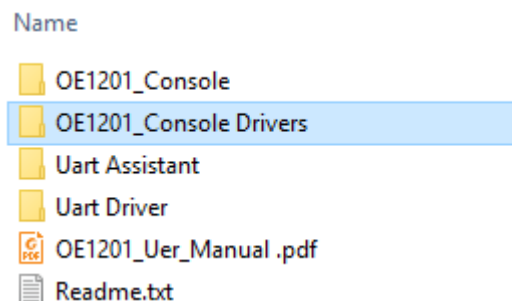
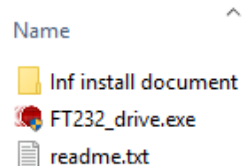
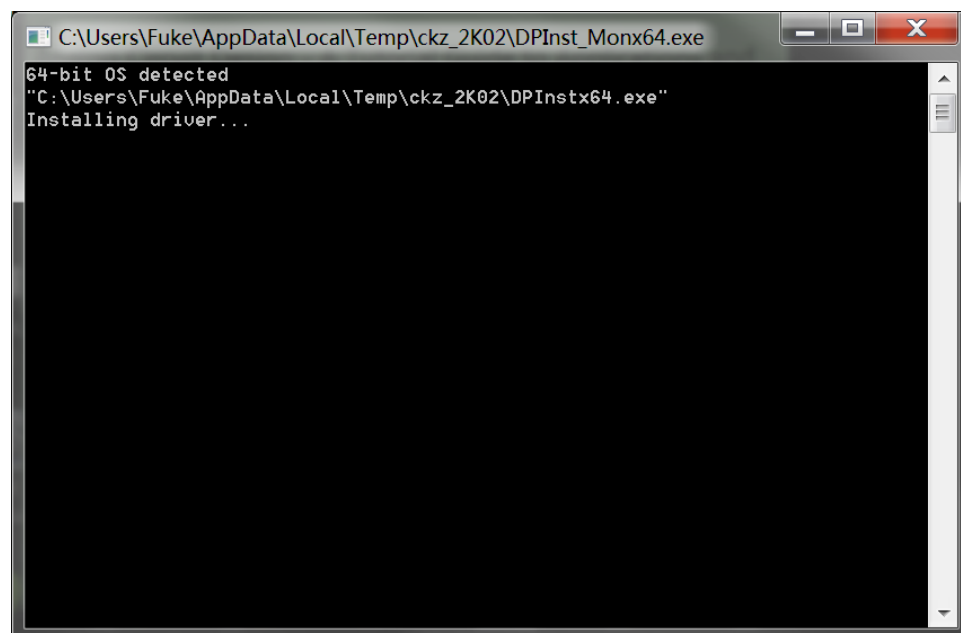
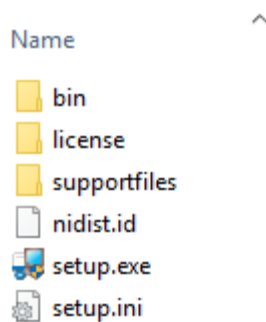

Fig.27 Software files.
Fig.28 “Uart Driver” files
Fig.29 FT232 Driver Installing Interface
Fig.31 “OE1201_Console Drivers” File
The required software is provided with the CD disk as below in Fig 27.
1) Double-click “FT232_drive.exe” in Fig.28 in the fourth file “Uart Driver” in Fig.27 and then you can see the Fig.29, which shows the installation is running.
- 1) You need to open the first file “OE1201_Console Drivers” in Fig.27 and start to install just as shown in Fig 31.
1) Open the second file “OE1201_Console_EN” in Fig. 27.